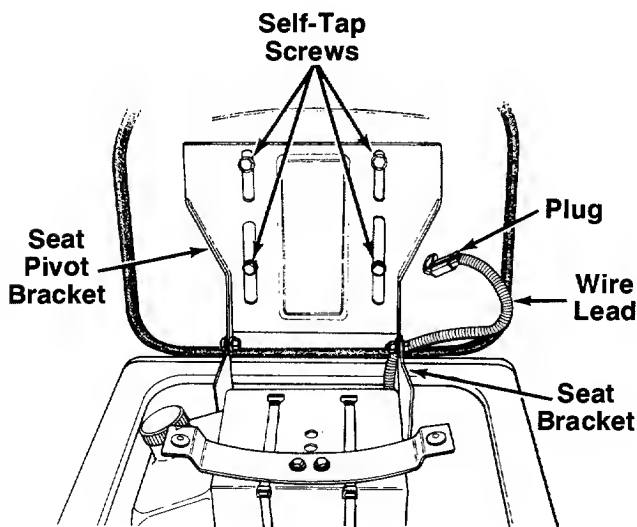

FIGURE 11.
1. The slots in the **seat pivot bracket** allow the seat to be adjusted to different positions. Place the **seat** against the seat pivot bracket in the position desired, and secure with four self-tapping screws. See figure 11.
2. Route the **wire lead** which is in the wire harness beneath the seat in **front** of the right hand seat bracket. Plug the lead into the **plug** on the wire lead extending from the right hand side of the seat. See figure 11.